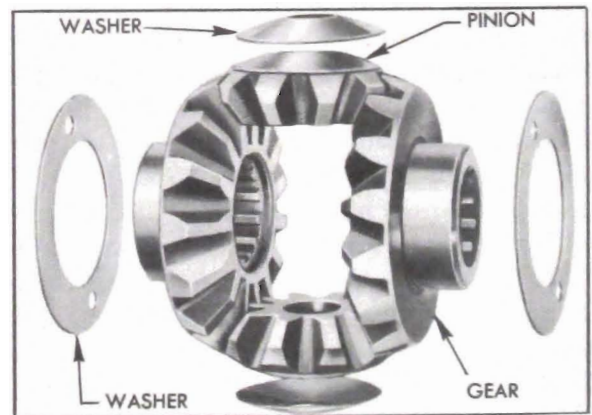

Figure 5-30—Differential Side Gears, Pinions, and Thrust Washers
13. Install differential side gears and thrust washers in case. See figure 5-30.